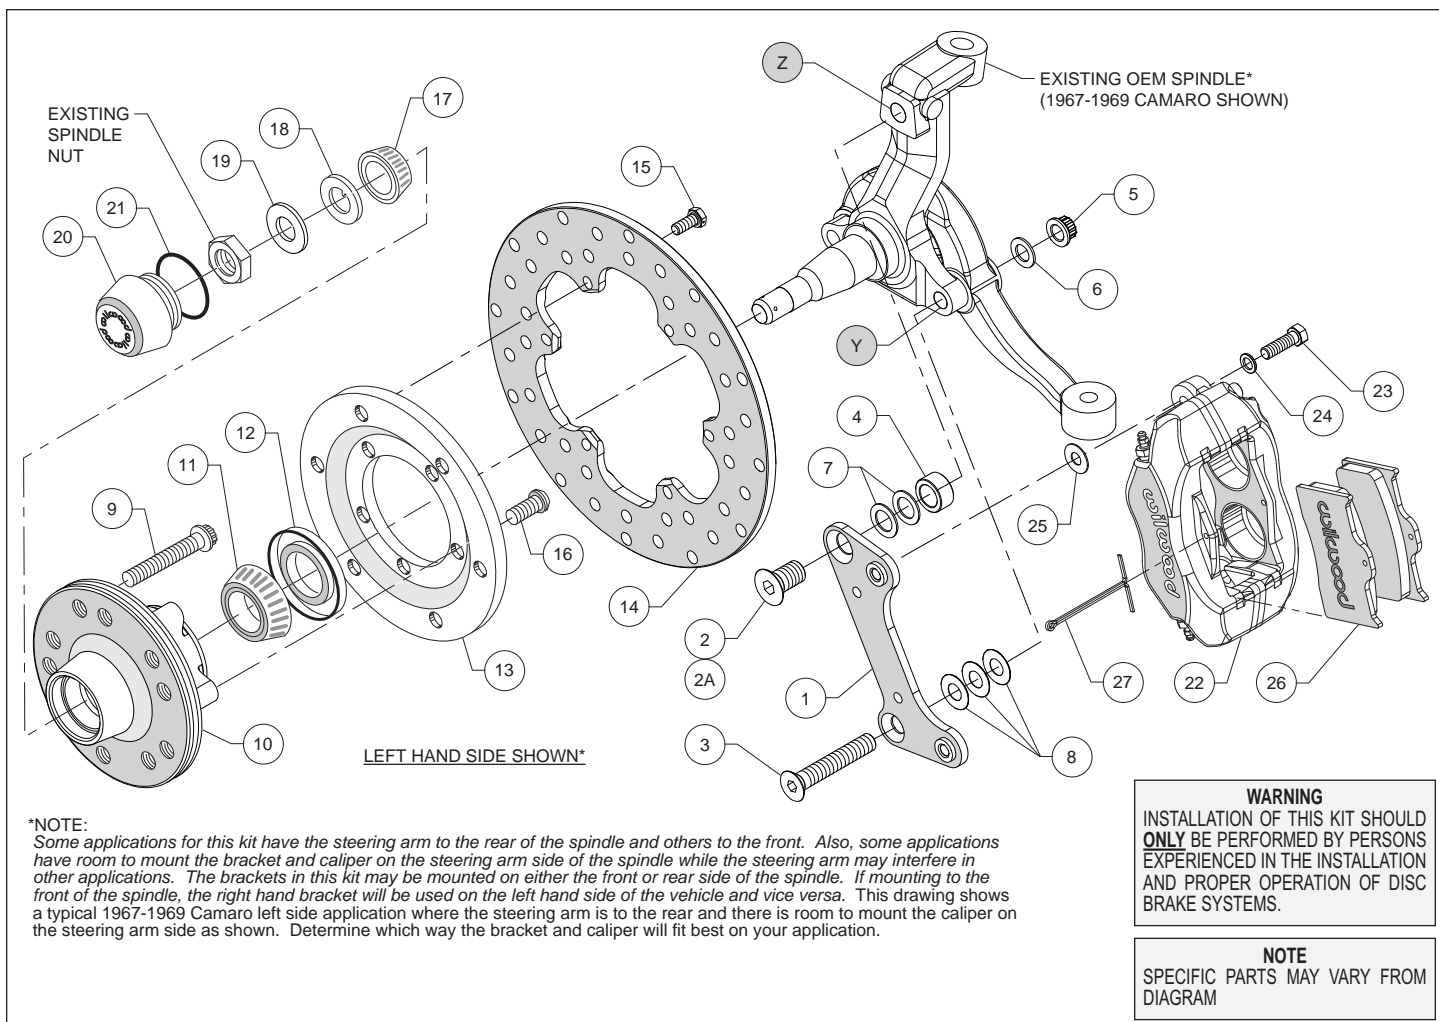
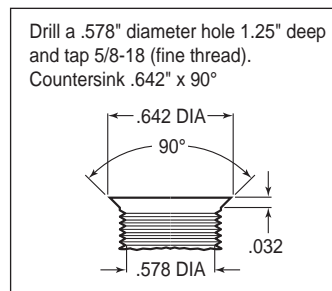
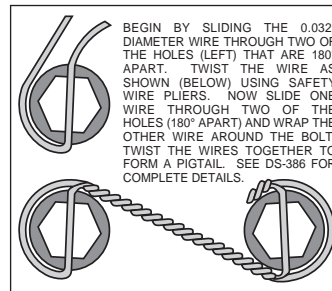
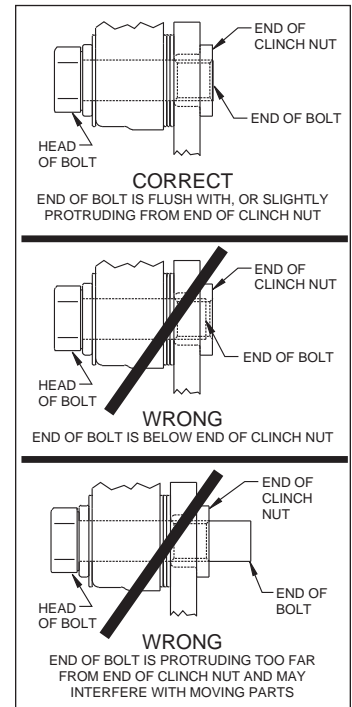

Figure 1. Typical Installation Configuration
Figure 3. Drill and Tap Detail
Figure 4. Safety Wire Diagram
Figure 5. Clinch Nut Engagement Diagram
Assembly Instructions (numbers in parenthesis refer to the parts list, on the preceding page and Figure 1): **CAUTION:** All mounting bolts must fully engage clinch nuts. Be sure to check that all bolts are either flush or protruding through flanged side of clinch nut after shimming, Figure 5.
•**NOTE:** Some applications for this kit have the steering arm to the rear of the spindle and others to the front. Also, some applications have room to mount the bracket and caliper on the steering arm side of the spindle while the steering arm may interfere in other applications. The brackets in this kit may be mounted on either the front or rear side of the spindle. If mounting to the front of the spindle, the right hand bracket will be used on the left hand side of the vehicle and vice versa. Figure 1 shows a typical 1967-1969 Camaro left side application where the steering arm is to the rear and there is room to mount the caliper on the steering arm side as shown. Determine which way the bracket and caliper will fit best on your application.
•**NOTE:** Some spindles in this year range may require the following modifications (reference Figure 1 and Figure 3): Top anchor pin hole (Z) must be drilled and tapped to the dimensions as outlined in Figure 3. The lower bolt hole (Y) in the spindle used to mount the new caliper bracket, and the mating steering arm hole, must be enlarged to .50" by drilling. It is recommended these modifications be performed by a qualified machinist.
•Install wheel studs (9) into the hub (10), Photo 1. Torque to 77 ft-lb. **NOTE:** There are two five lug patterns in the hub (5 x 4.50 and 5 x 4.75). Ensure the correct hub stud pattern is being used to fit the wheel application.
•Pack the large inner bearing cone (11) with high temperature disc brake bearing grease (available from your local auto parts store) and install into the backside of the hub (10), Photo 2.
•Install the grease seal (12) by pressing into the backside of the hub (10), flush with the end of the hub, Photo 2.
- Orient the rotor (14) and the rotor adapter (13) as shown in Figure 1 and Photo 3. Attach the rotor to the adapter using bolts (15). Using an alternating sequence, apply red *Loctite*® 271 to the threads, and torque to 25 ft-lbs. Safety wire bolts using standard 0.032 inch diameter stainless steel safety wire as shown in Figure 4. Refer to Wilwood's data sheet DS-386 (available at www.wilwood.com/Pdf/DataSheets/ds386.pdf) for complete safety wire installation instructions.
- Mount the adapter/rotor assembly (13 and 14) to the hub (10) using bolts (16), as shown in Figure 1 and Photo 4. Using an alternating sequence, apply red *Loctite*® 271 to the threads, and torque to 45 ft-lb.
- Disc Brake Spindle Application Only:** Follow the instructions below, but instead use bolt (2A), spacer (4), and two .050" thick shims (7) in the upper bolt hole location, Figure 1.
- Orient the caliper mounting bracket (1) as shown in Figure 1 and Photo 5, and install using bottom bolt (3), washer (6), and nut (5), Figure 1. Initially place three .032" thick shims (8) between the bracket and spindle. Install the upper bolt (2). Temporarily tighten bolts. **NOTE:** *The bracket must fit squarely against the mounting surfaces on the spindle.* Inspect for interference from casting irregularities, machining ridges, burrs, etc. Temporarily install the new hub and rotor assembly. Check that the bracket is aligned parallel to the rotor, Photo 6. If not, adjust by adding or subtracting shims (8) on the lower bolt between the bracket and spindle, Figure 1. Once the bracket alignment is correct, remove the upper bolt (2 or 2A), apply red *Loctite*® 271 to the bolt threads, and torque to 120 ft-lb. Torque the lower lock nut to 65 ft-lb.
- NOTE:** *Please reference the caution statement at the beginning of the assembly instructions.* Mount the caliper (22) onto the caliper mounting bracket (1) using bolts (23) and washers (24), as shown in Figure 1. Initially place one .035" thick shim (25) on each bolt between the caliper and the bracket, Photo 9. Temporarily tighten the mounting bolts and view the rotor (14)
through the top opening of the caliper. The rotor should be centered in the caliper, Photo 10. If not, adjust by adding or subtracting shims (25) between the bracket and the caliper. Always use the same amount of shims on each of the two mounting bolts. **NOTE:** *The end of each bolt must be flush with or slightly protruding from the head of the clinch nut, as shown in Figure 5.* If necessary place spare shims (25) between washer (24) and caliper mounting ear to achieve the proper clinch nut engagement. Once the caliper alignment and clinch nut engagement are correct, remove the bolts one at a time, apply red *Loctite*® 271 to bolt threads, and torque to 40 ft-lb. For an added measure of security, the bolts may be safety wired using standard 0.032 inch diameter stainless steel safety wire as shown in Figure 3. Refer to Wilwood's data sheet DS-386 (available at www.wilwood.com/Pdf/DataSheets/ds386.pdf) for complete safety wire installation instructions.